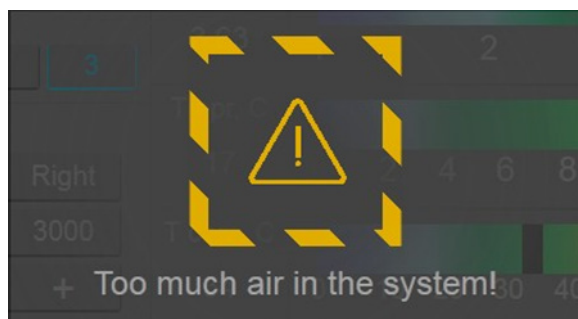

Figure 35. Message «Too much air in the system!»
- «Too much air in the system!» (Fig.35). This message will appear in the following cases: